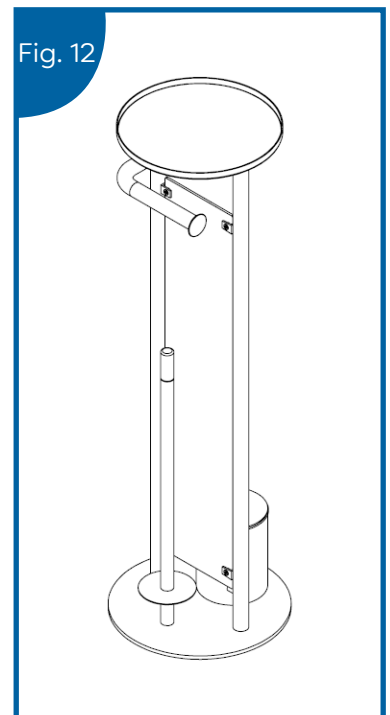

Fig. 12
12. The Bathroom Butler is fully assembled and ready to be used. (See fig.12) **Note: Ensure you have read the safety and product care section before use.**